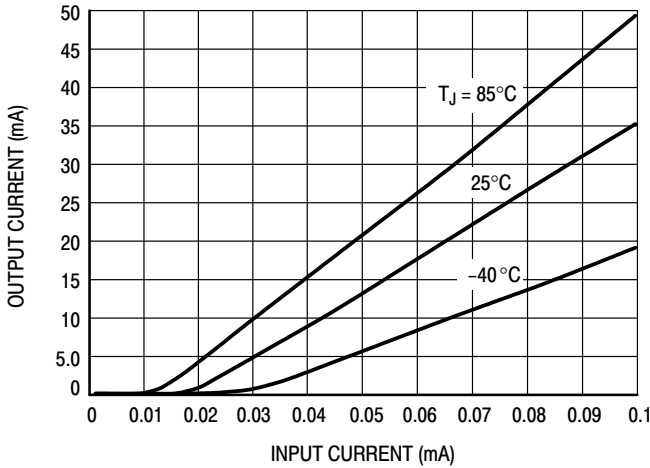

Figure 4. Threshold Effects
5. For levels of input current below $100 \mu\text{A}$, use the input threshold curves of Figure 4 to verify that there will be adequate input current available to turn on the MDC3105 at all temperatures.